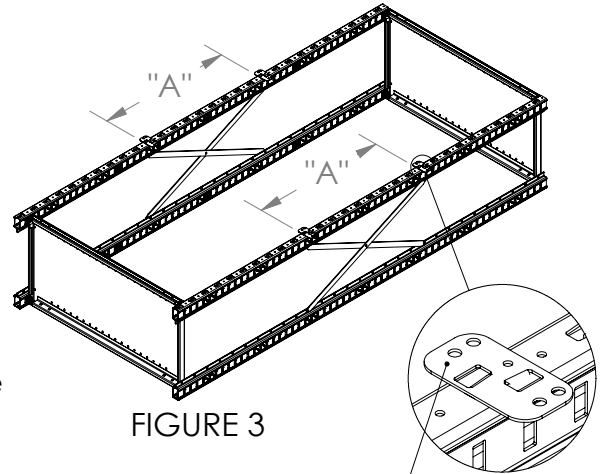

FIGURE 3
**3.** Attach combination clips to H-Post face at location shown in Fig. 3. Twist clip into slots.
For 7ft. & 8ft. posts, locate post connectors close to the bottom of the unit. For 10ft. & 12ft. posts use to set of braces, one near the bottom of the unit, the other 30" above. Be sure to put clips in same locations on all posts to insure proper alignment for attaching sway braces. For single faced or individual units a #14 x 5/8 type "B" hex head thread cutting screw must be screwed in the center hole to prevent rotation of connector. Fig. 3.